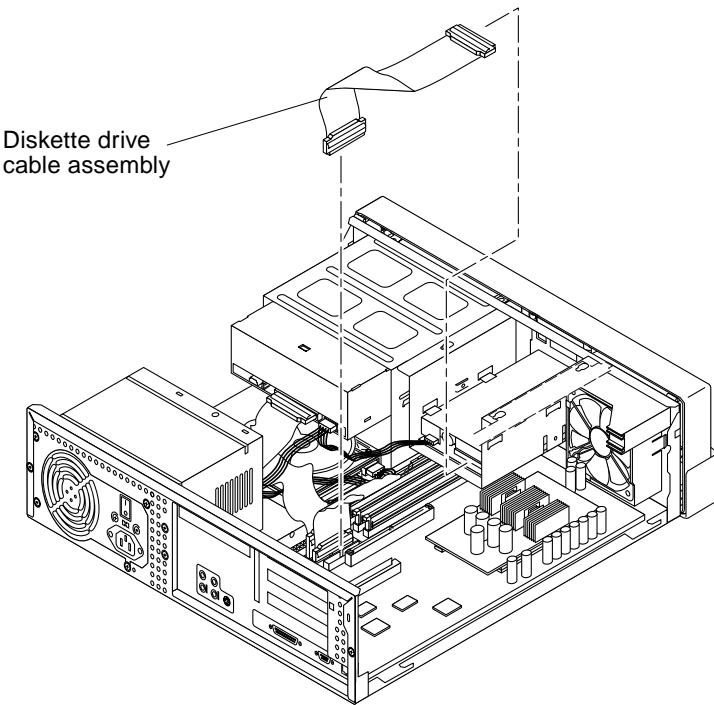

FIGURE 6-2 Removing and Replacing the Diskette Drive Cable Assembly
2. Remove the diskette drive cable assembly connectors from the following (FIGURE 6-2):
1. Replace the diskette drive cable assembly as follows (FIGURE 6-2):